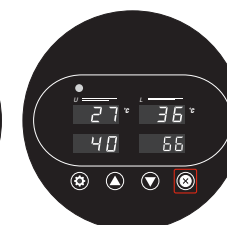

Fig. 12
- Short Press the  button on the control panel(Fig.12), the machine will open automatically, function like a quick release button.